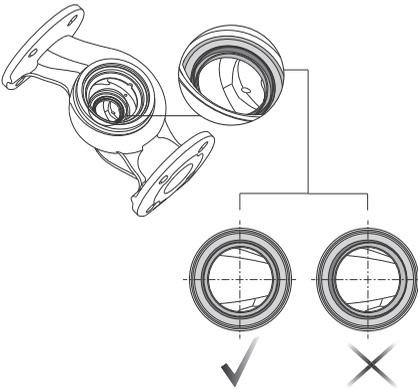

Fig. 9 Centring of neck ring
1. Visually check that the neck ring is centred in the pump housing. See fig. 9.